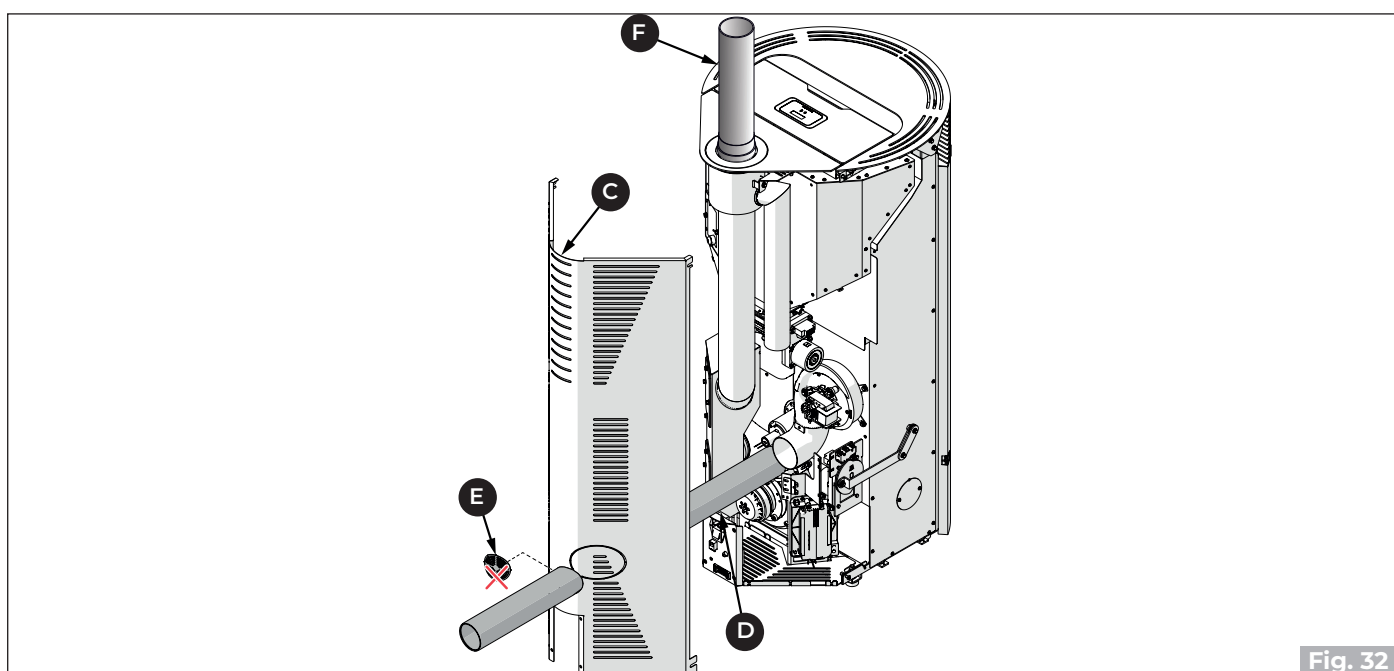

Fig. 32
- Connect the flue gas outlet pipe (**F**) ("Fig. 32").